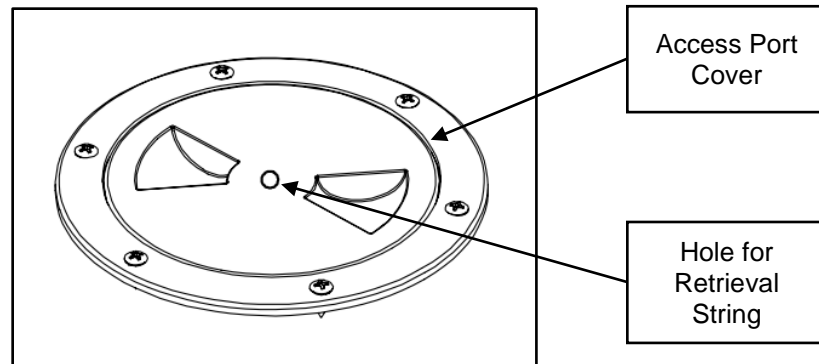

Figure 29. Access Port for Cleaning Stick
3. From the underside of the cover, pass the end of the Cleansing Stick retrieval string through the small hole in the middle. See Figure 29.